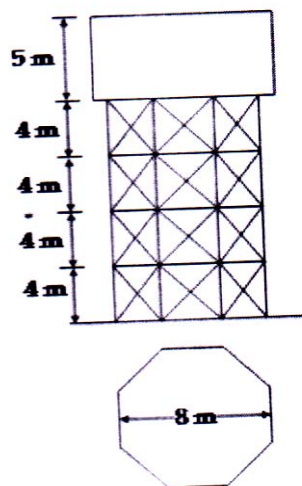

Fig. 2
b) An elevated water tank is 10 m in diameter and 5 m high. The depth of water is 4.70 m . It is supported on a concrete staging of 8 columns located on the circumference of a circle of 8 m diameter. The height of the staging is 16 m and horizontal bracing is provided at a vertical spacing of 4 m . The circular columns are 500 mm in diameter. Steel bars of 25 mm diameter are provided as diagonal bracing in all the bays as shown in Fig.2. The structure is located in Zone III and founded on Type III type of soil. The weight of the empty tank may be taken as 2000 kN . Obtain the equivalent stiffness for the staging. Also, obtain the base shear for